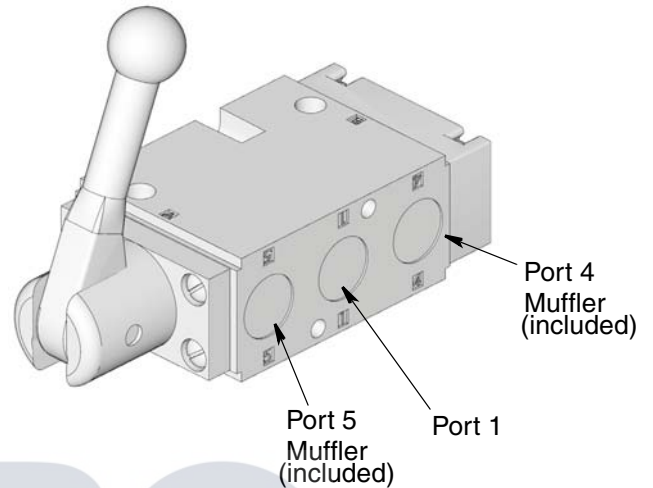

FIG. 13
- a. Connect port 1 to the pneumatic power supply line (FIG. 13).